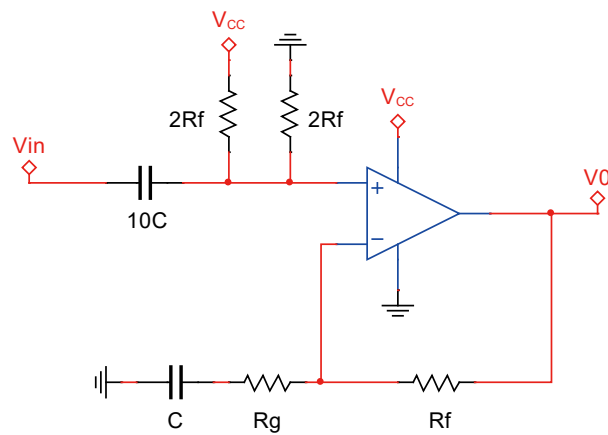

Figure 2. Isolation Amplifier Circuit
- 2) If further amplification of the module output signal is required, use one or more stages of the circuit shown in Figure 2.